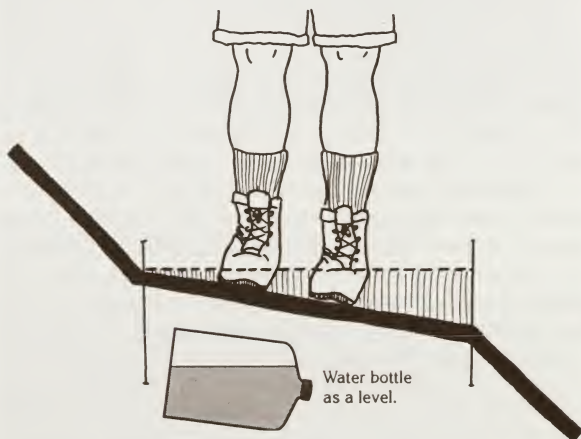

Figure 12—If your ankles start to roll, there is too much outslope.
- The best way to check the outslope is to walk the tread. If you can feel your ankles rolling downhill, there is too much outslope (Figure 12). The outslope should be barely detectable to the eye. If you can see a lot of outslope, it's probably too much. A partially filled water bottle makes a good level.